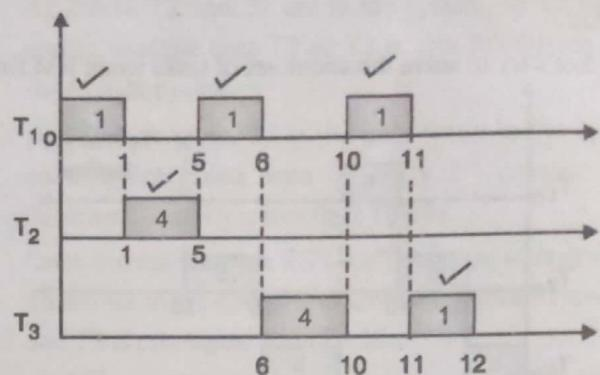

Fig. P. 1.2.5
- As shown in Fig. P. 1.2.5 X-axis shows time and Y-axis shows tasks.
- At 5th clock cycle, T1's 2nd instance have deadline 10. Even if T3's 1st instance is yet to be scheduled scheduler picks task T1 (10) which has deadline earlier than 1st instance of T3 (20).